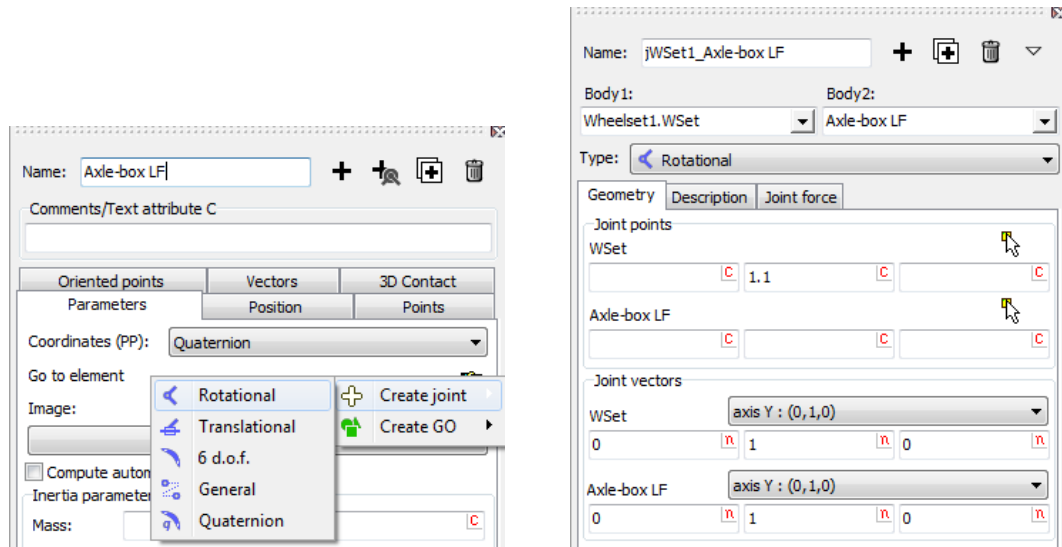

Figure 2.13. Creating a rotational joint for the axle-box
- Click on the button and select the **Create joint | Rotational** menu command, Figure 2.13, left. A joint is added automatically.
- Set the first body **WheelSet1.WSet** from the drop-down list (the base body of the leading wheelset), Figure 2.13, right.